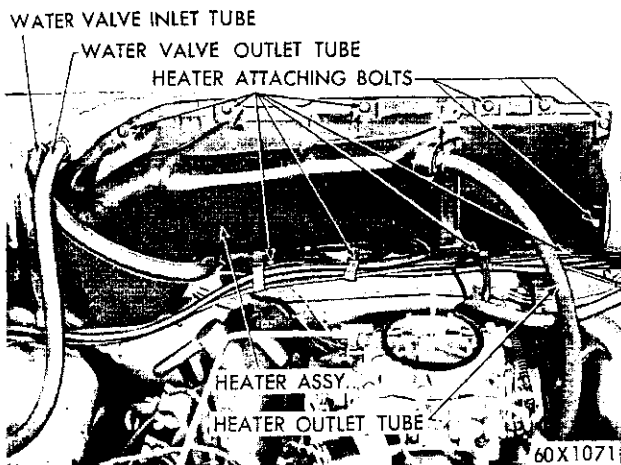

Fig. 19—Heater Removal
a. Removal (Fig. 19)
- (1) Disconnect the battery ground cable.
- (2) Disconnect the heater ground wire at windshield wiper motor mounting bracket.
- (3) Disconnect the heater wires from harness connectors.
- (4) Disconnect the vacuum hoses at each vacuum unit.
- (5) Remove the hoses from their attaching clips.
- (6) Remove the heater valve capillary coil from the opening in the heater housing (driver's compartment, passenger side).
- (7) Remove the clips from the housing.
- (8) Remove the three screws attaching the heater distribution duct to dash panel, (one is located to